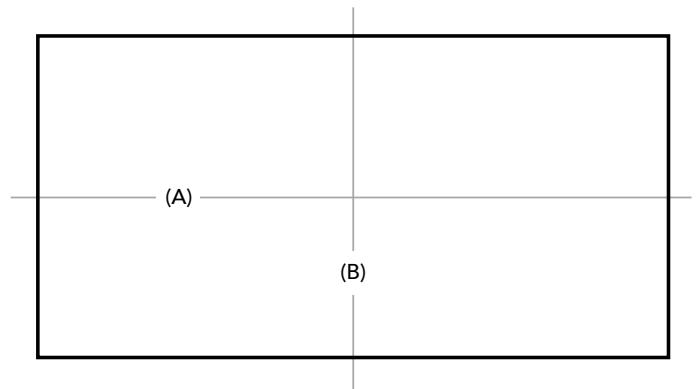

FIGURE 1 Snap a chalk line in the center of the room
- Snap a chalk line down the center of the floor parallel with the long dimension of the room (Fig. 1 - "A").
- Find the center of the chalk line and snap a second chalk line at a right angle to the center line (Fig. 1 - "B").